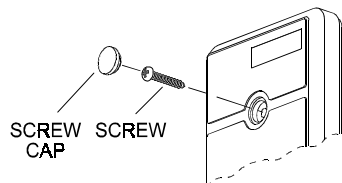

Figure 2. Front Cover Removal
- K. Carefully position the front cover hole over the LED. Secure the front cover to the base with the screw and insert the plastic cap into the hole (Fig. 2).